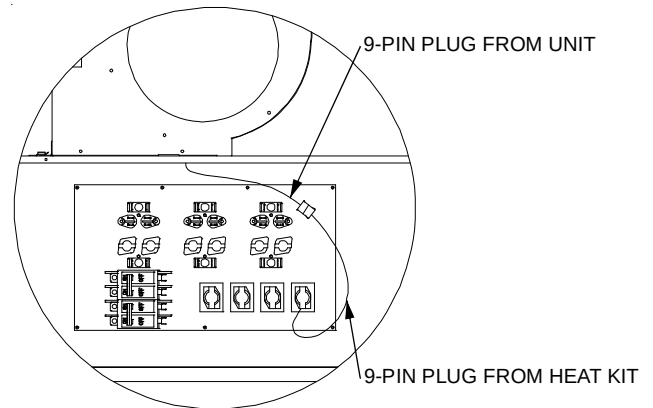

Figure 4
10. Connect the plug to the mating 9-pin plug attached to heater kit. See Figure 4.